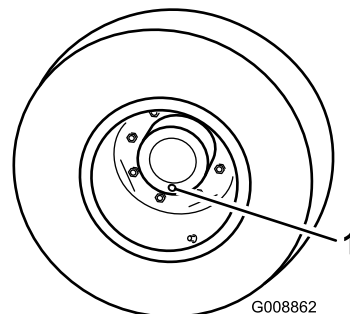

Figure 89
1. With the machine on a level surface, position a wheel so a check plug is at the lowest (6 o'clock) position (Figure 89).